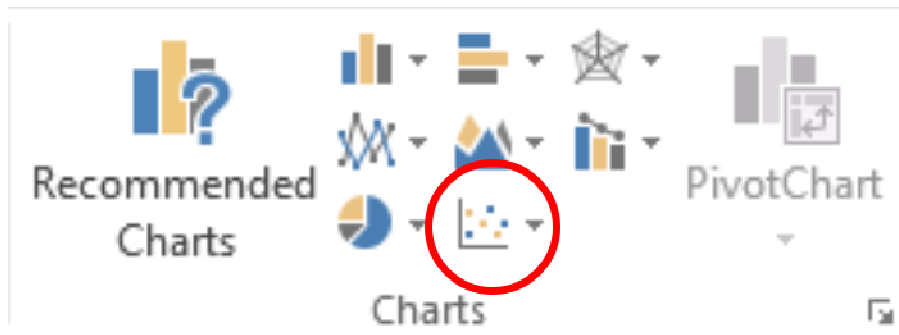

Figure 7. Position of the “Insert Scatter” icon
- 2) Ignore the values before the maximum. Select columns A and B, and plot the data. Use the “Insert Scatter” icon shown on Fig. 7.